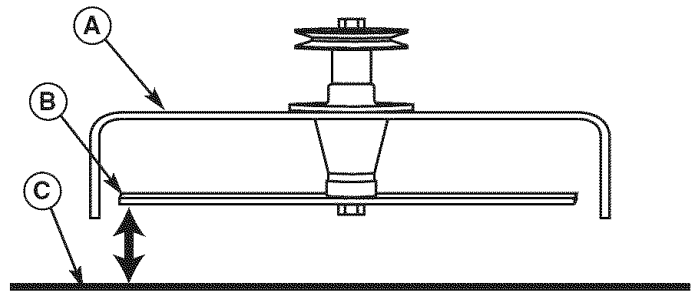

Figure 33. Measure Blade Tips to Ground
5. Measure the distance between the tips of the outside blades and the ground (Figures 33 & 34). If there is more than 1/8" (3mm) difference between the measurements on each side, proceed to step 6. If the difference is 1/8" (3mm) or less, proceed to Front To Back Leveling.